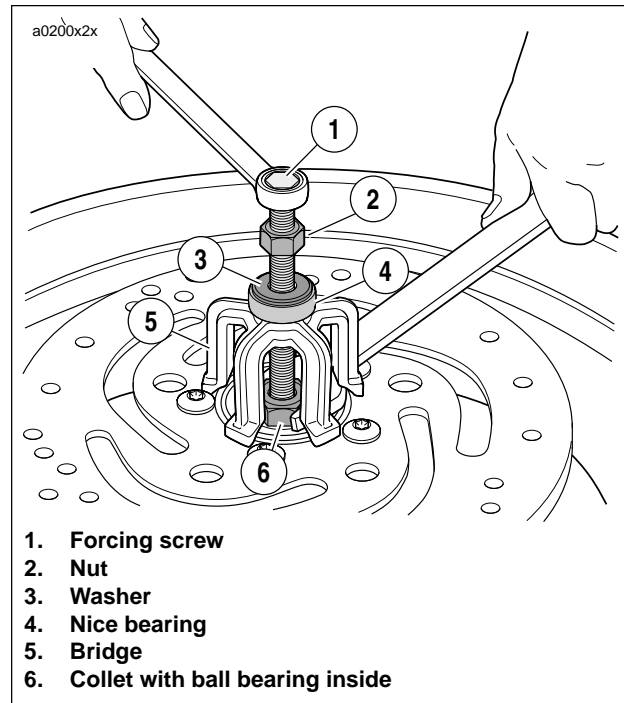

Figure 2-13. Removal Tool
2. See Figure 2-13. Obtain WHEEL BEARING INSTALLER/REMOVER (Part No. B-43933) and assemble.
- a. Sparingly apply graphite lubricant to threads of forcing screw (1) to prolong service life and ensure smooth operation.
- b. Install nut (2), washer (3) and Nice bearing (4) on screw. Insert assembly through hole in bridge (5).
- c. Drop ball bearing inside collet (6). Fasten collet and ball bearing to forcing screw (1).
3. Hold end of forcing screw (1) and turn collet (6) to expand edges of collet.